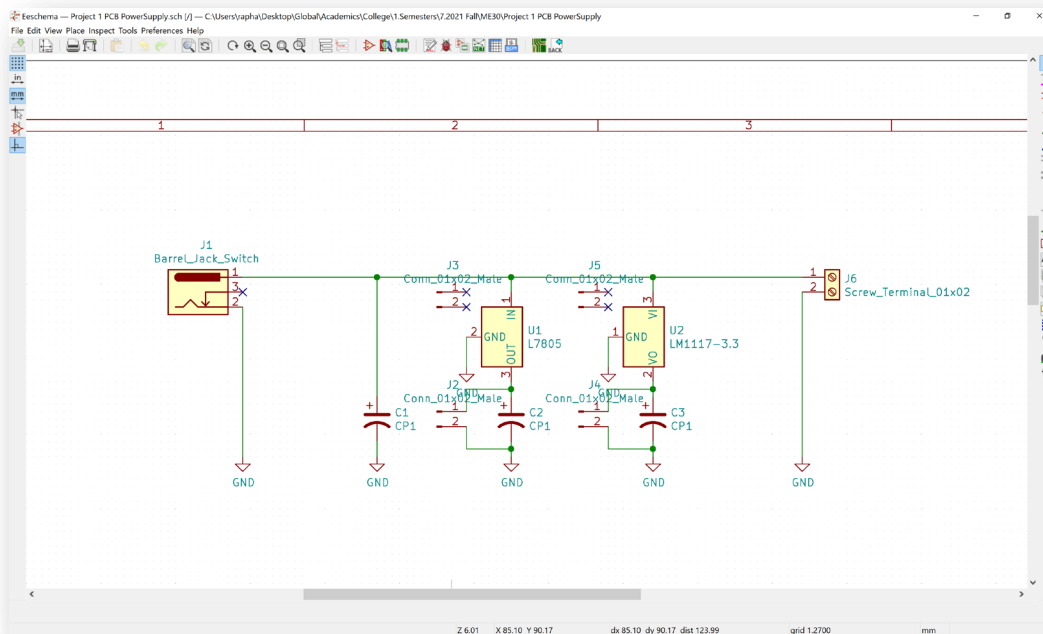

Figure 3
- Draw up the PCB design using KiCad, first via drawing up the circuit and performing a validity check using KiCad. Shown in figure 3.